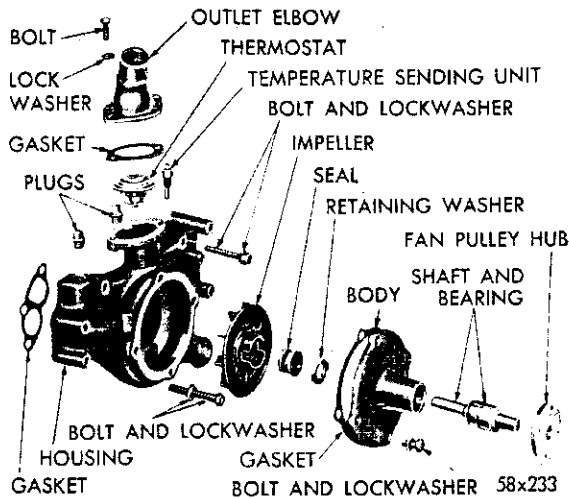
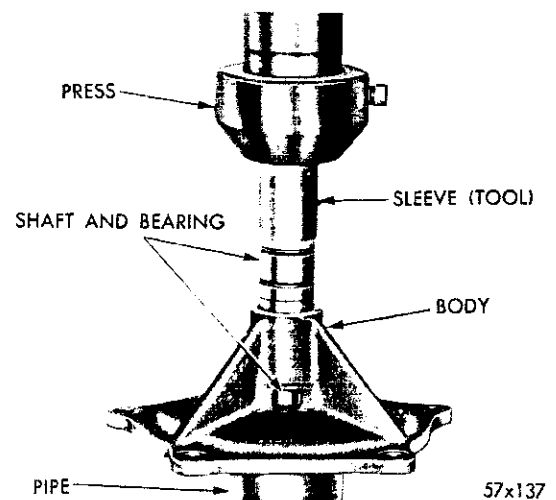

Fig. 3—Water Pump Assembly (Disassembled View)
Fig. 5—Installing Shaft and Bearing Assembly Using Tool C-3468
a. Removal from Vehicle (Fig. 3)
- (1) Drain the cooling system. (Remove the upper half of fan shroud on Air Conditioning models only.)
- (2) Loosen the power steering pump, idler pulley and alternator and remove all belts.
(3) Remove the fan, spacer and pulley. On Air Conditioning models, remove the pulley from the water pump fan hub. Loosen all nuts from the fan to remove the fan drive.
b. Disassembly (Fig. 3)
(6) Clean all parts thoroughly. Inspect the condition of the seal seat and recondition, if necessary, using refacing Tool C-551.
c. Assembly (Fig. 3)
(1) Support the pump body as close to the center bore as possible in an arbor press. **DO NOT SUPPORT THE BODY ON ATTACHING FACE, OR ON SEAL SEAT.**
(2) Press the shaft and bearing assembly into the body, using Tool C-3468, as shown in Figure 5.
NOTE: The .090 inch dimension must be maintained when installing a new shaft and bearing assembly, as shown in Figure 5. The undercut on the tool does not control the .090 inch dimension.